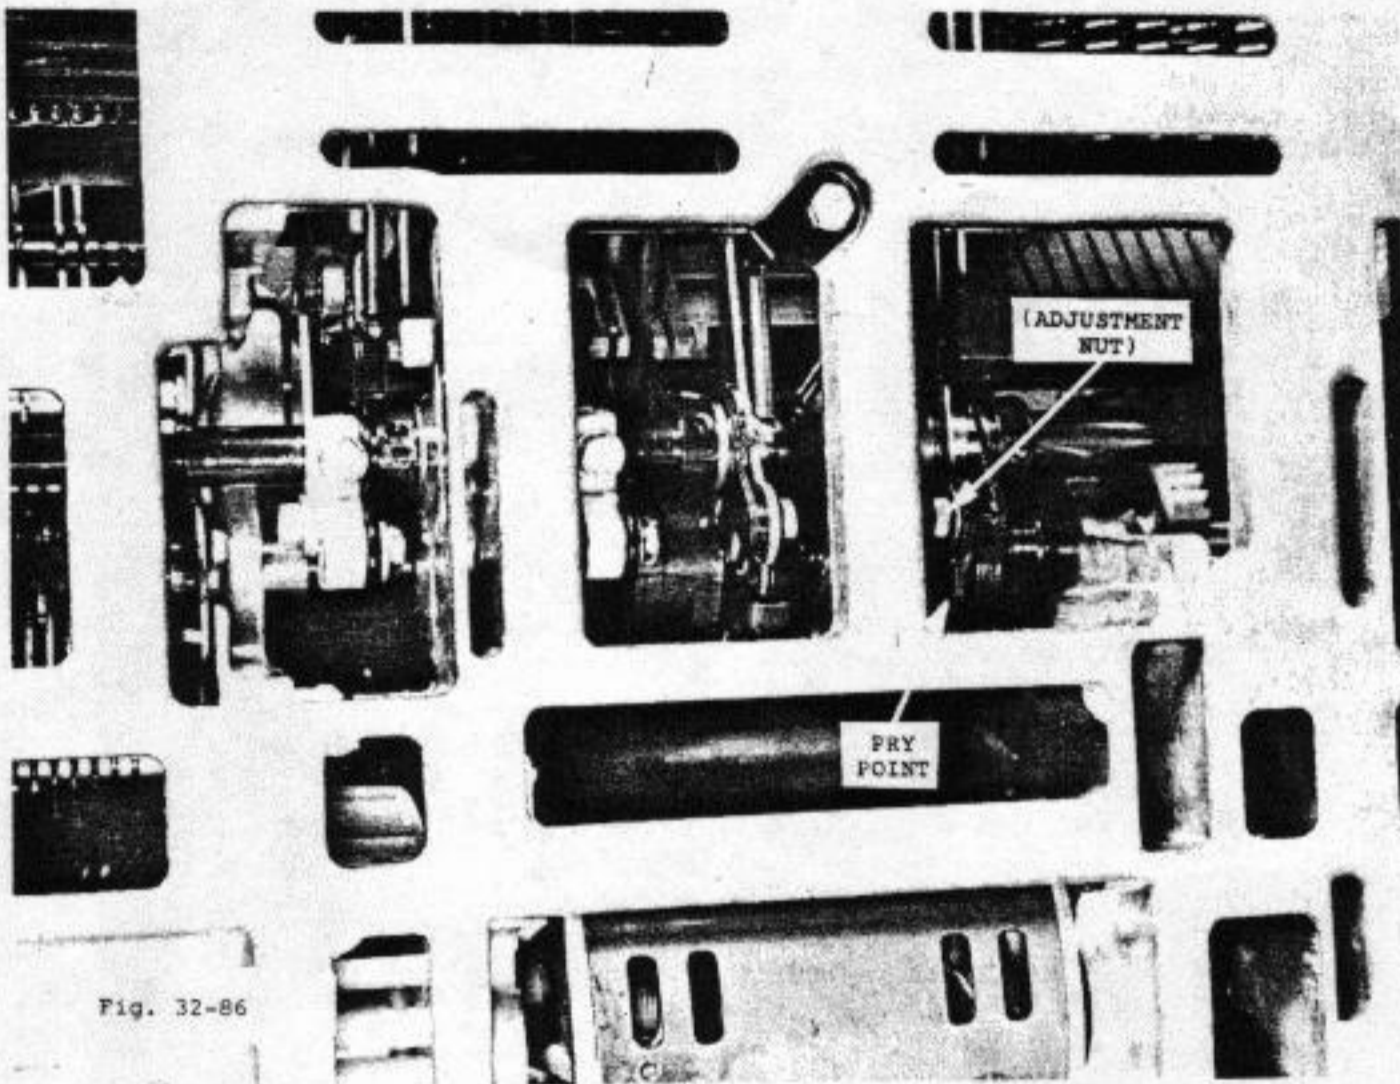

Fig. 32-86
2. Adjustment instructions are in Fig. 32-83. Location of selector blocking levers and the end of the codebar are in Fig. 32-84. In that figure, note where the gap is. Adjustment actually takes place at the spot indicated by Fig. 32-85. A closer look can be provided in Fig. 32-86.